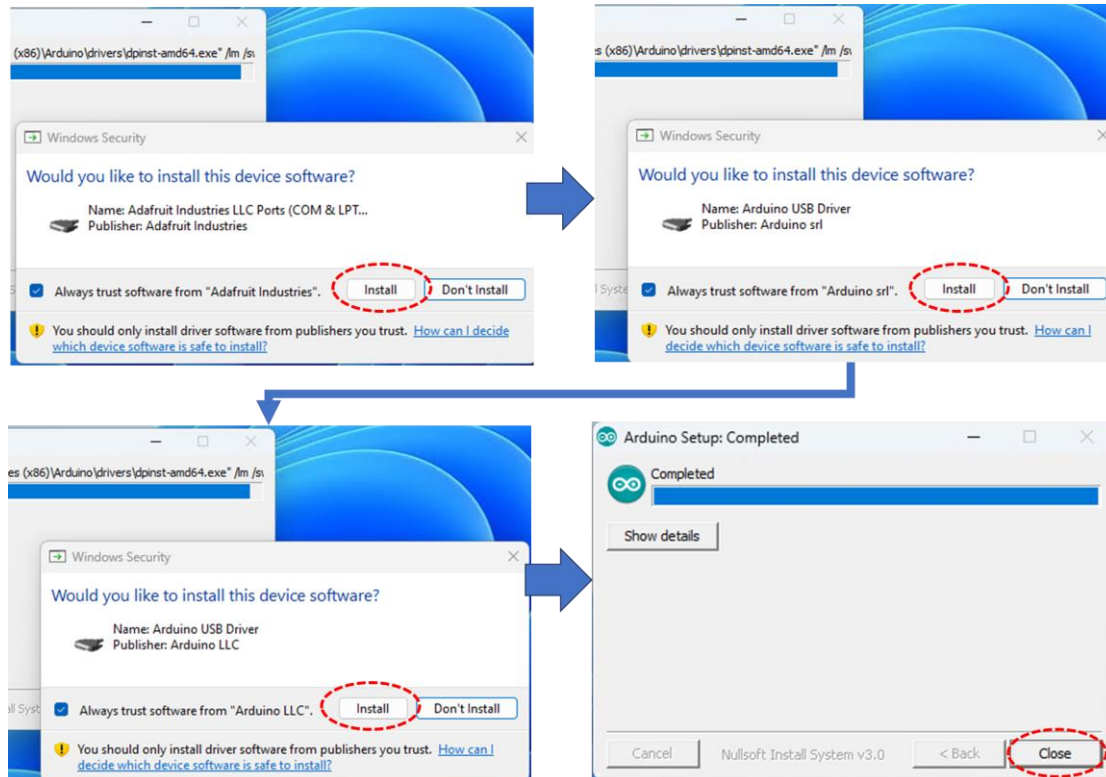

Fig6. Step-by-step instructions for installing IDE on a Windows-based machine.
4. The red dotted circle indicates where the user should click to install the software. Following the steps shown in Fig6 should help the user install the IDE in Windows based machines.